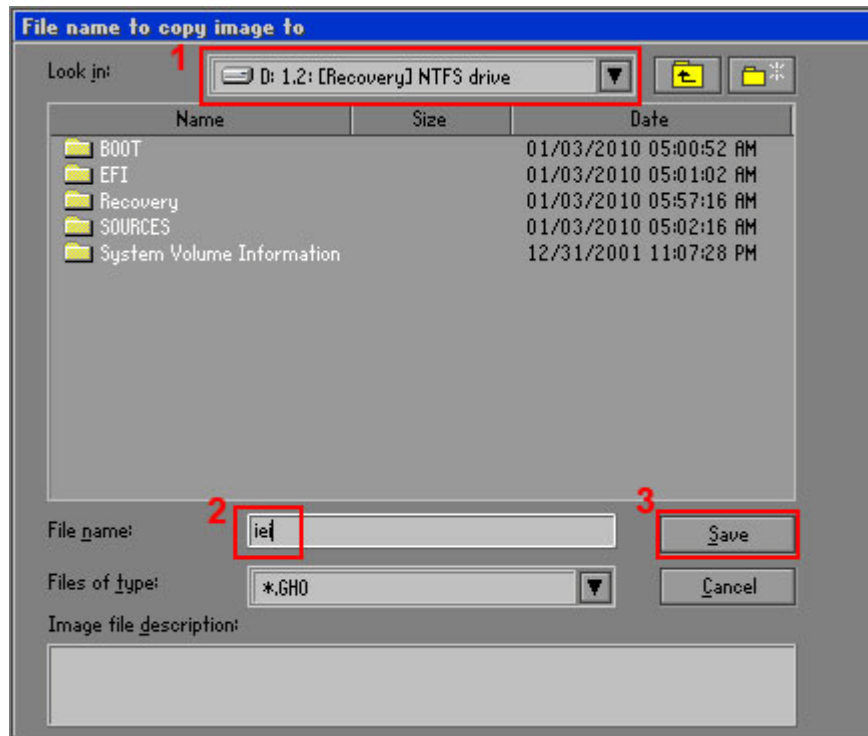

Figure C-16: File Name to Copy Image to
Step 7: Select 1.2: **[Recovery] NTFS drive** and enter a file name called **iei** (**Figure C-16**). Click **Save**. The factory default image will then be saved in the selected recovery drive and named IEI.GHO.